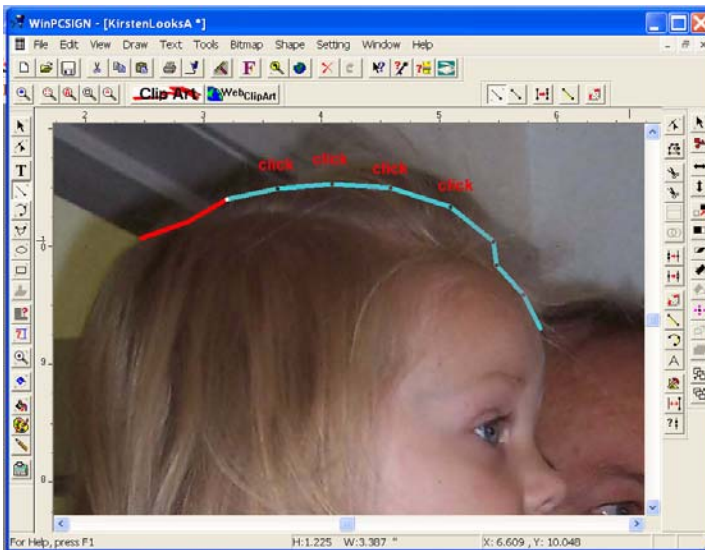

Figure 168
- 3 Click on a starting point and then hold the mouse button down as you drag the starting line. See figure 168.